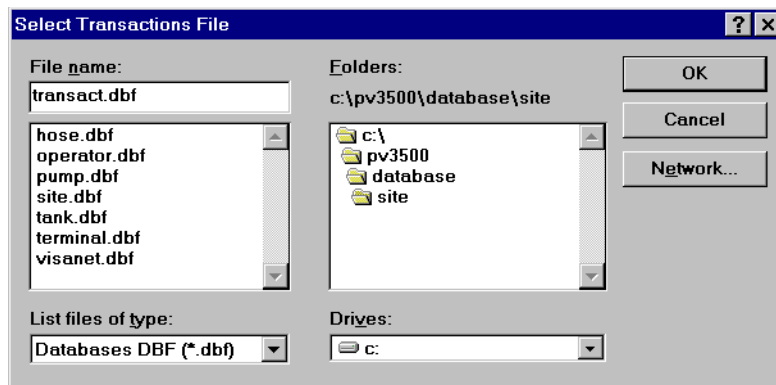

Figure 49: Select Transaction File Dialog Box
1. Select **Site > Transactions > All**. This form (*Figure 49*) lets you browse transaction database files (*.dbf's) stored in your local computer.